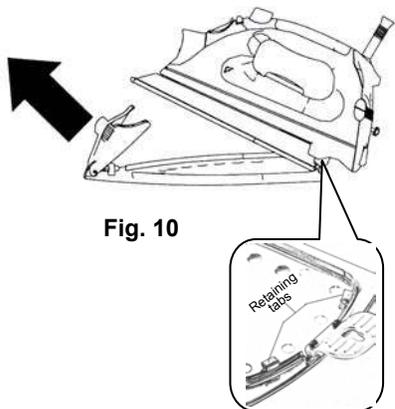

Fig. 10
2. Lower the nose of the iron and close the soleplate clamp to secure the iron in place. See figure 10.